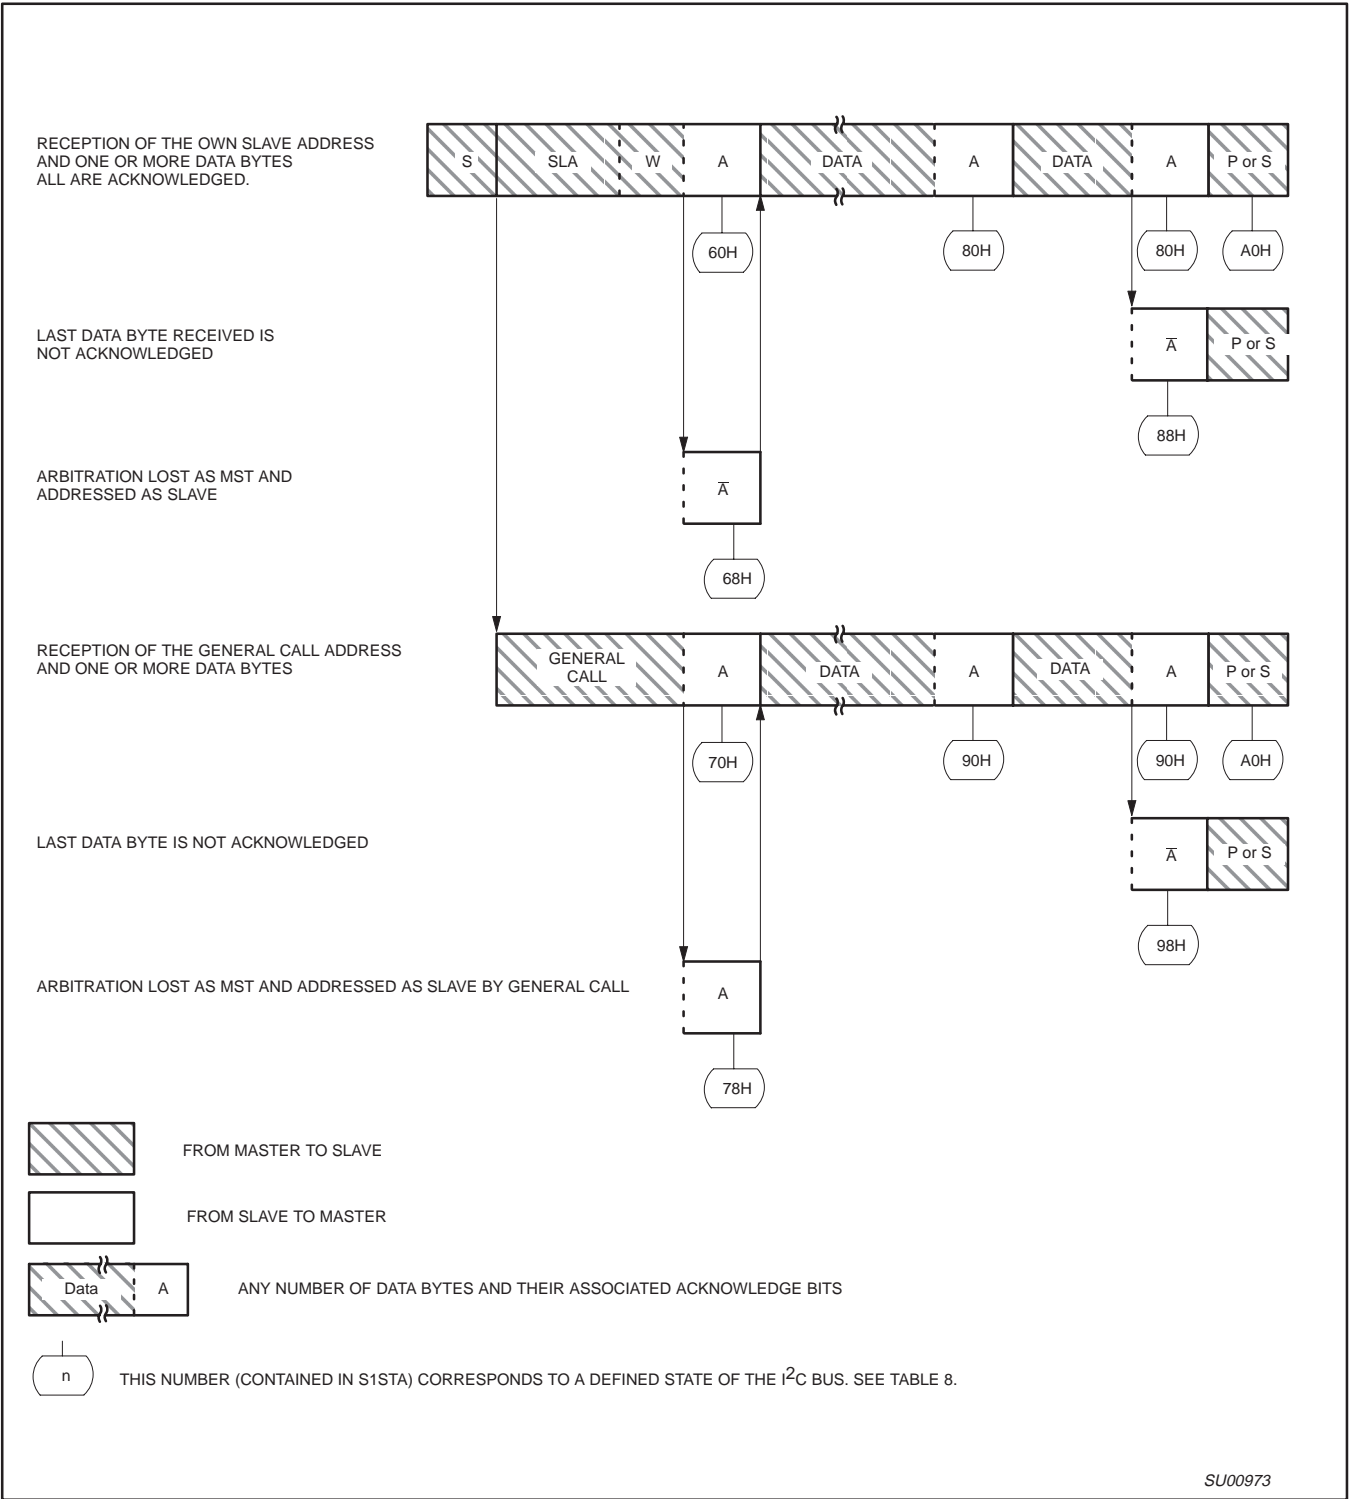

Figure 41. Format and States in the Slave Receiver Mode
**Slave Receiver Mode:** In the slave receiver mode, a number of data bytes are received from a master transmitter (see Figure 41). To initiate the slave receiver mode, S1ADR and S1CON must be loaded as follows: